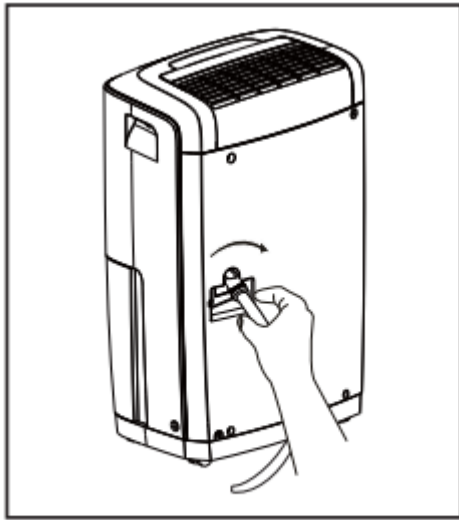

fig. 3
d. Screw the garden hose onto the threaded portion of the drain connector. (fig.3)